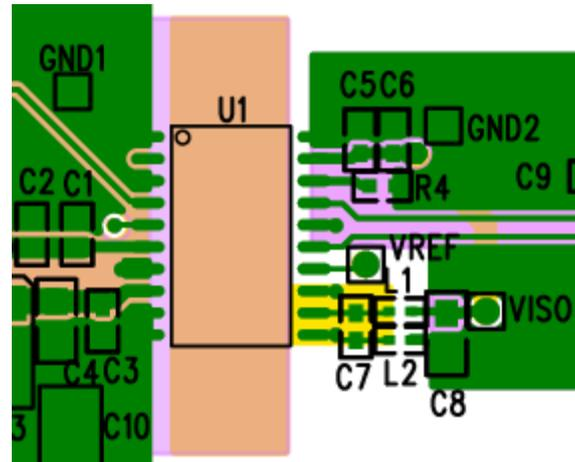

Figure 4. Layout Notes for EVAL-ADM3053EBZ
Added Overlapping Stitching Capacitors Section, PCB Layout Recommendations Section, EN55022 Radiated Emissions Test Results Section, and Figure 4; Renumbered Sequentially 4
- Do not connect the V_{ISOOUT} pin to a power plane; connect between the V_{ISOOUT} pin and the V_{ISOIN} pin using a PCB trace. Ensure V_{ISOOUT} (Pin 12) is connected first through the L1 ferrite before connecting to V_{ISOIN} (Pin 19), as shown in Figure 4.
- An embedded stitching capacitor between the GND1 PCB plane and GND2 Pin 11 and Pin 13 (inside L2 ferrite) using internal layers of the PCB planes as highlighted in the area around U1 in Figure 4 (see the Overlapping Stitching Capacitor section).
- Ensure that GND2 (Pin 16) is connected to the main bus side PCB ground plane outside of the L2 ferrite, as shown in Figure 4.